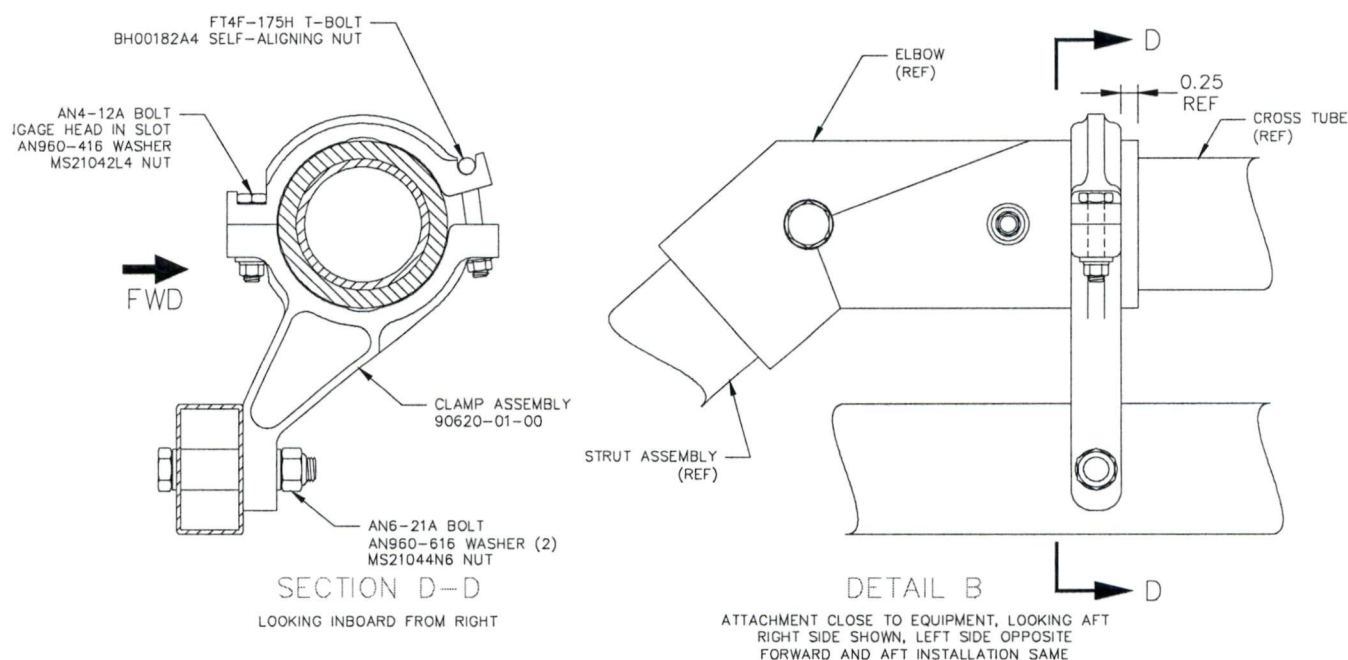

Figure 25.2 – Clamp Assembly Installation (Close Side)
3. Remove MS21042L4 Nut and AN960-416 Washer from AN4-12A Bolt on Close Clamp Assembly (90620-01-00). Loosen BH00182A4 Self-Aligning Nut on FT4F-175H T-Bolt if required. Locate Clamp Assembly on forward cross tube elbow, with beam mounting lug on aft side, approximately 0.25" from inboard edge. Install AN960-416 Washer and MS21042L4 Nut on AN4-12A Bolt. Tighten nuts enough to prevent the clamp from slipping on the elbow. Repeat for aft cross tube. See Figure 25.2.